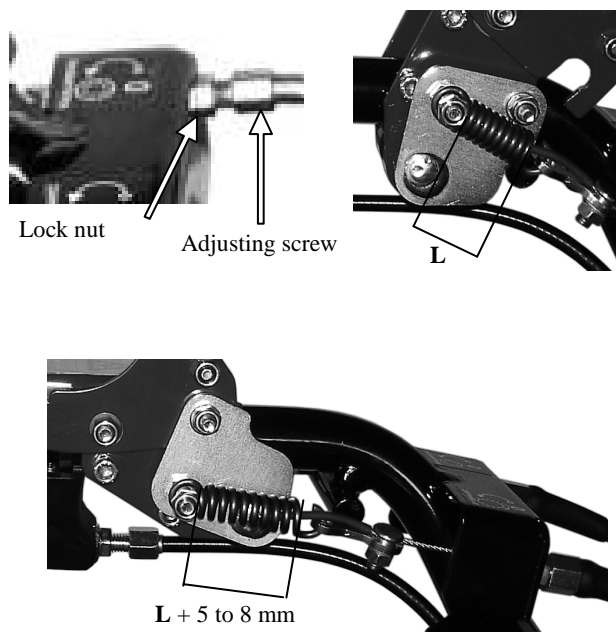

Fig. 15. Wheel drive tension spring.
- Now depress the tensioning lever and measure the length of the stretched tension spring - (see fig. 15).